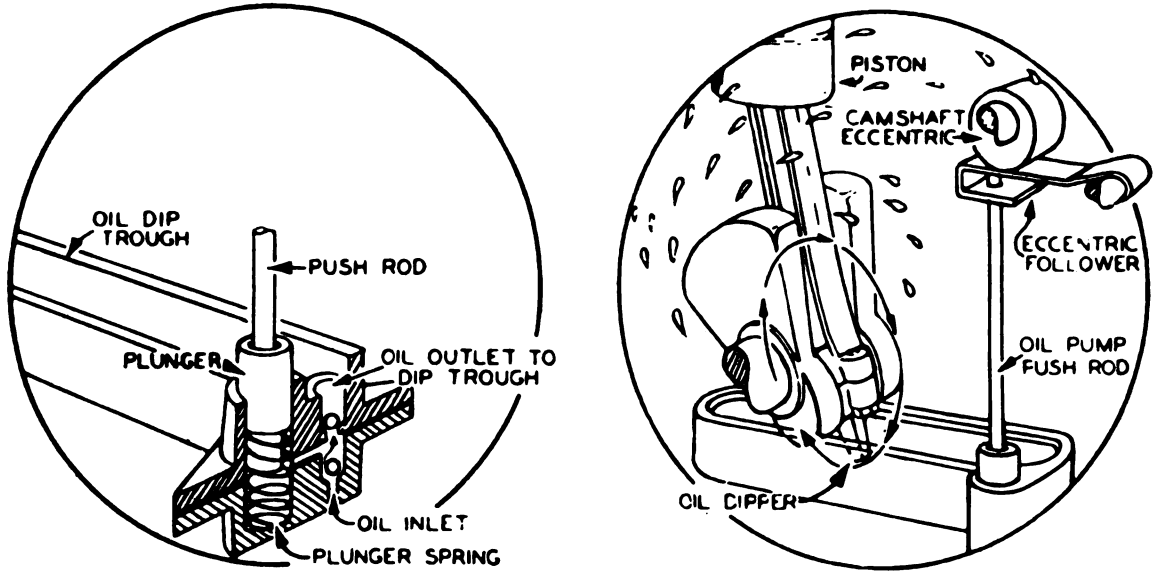

Figure 4-2. Pump and Splash Lubrication
e. **LUBRICATION.**—A pump and splash lubricating system is used. A piston type pump lifts oil from a one-quart oil base to a dip-trough. An agitator on the connecting rod dips into the trough and sprays oil to all internal parts of the engine. (See figures 4-2 and 5-7.)